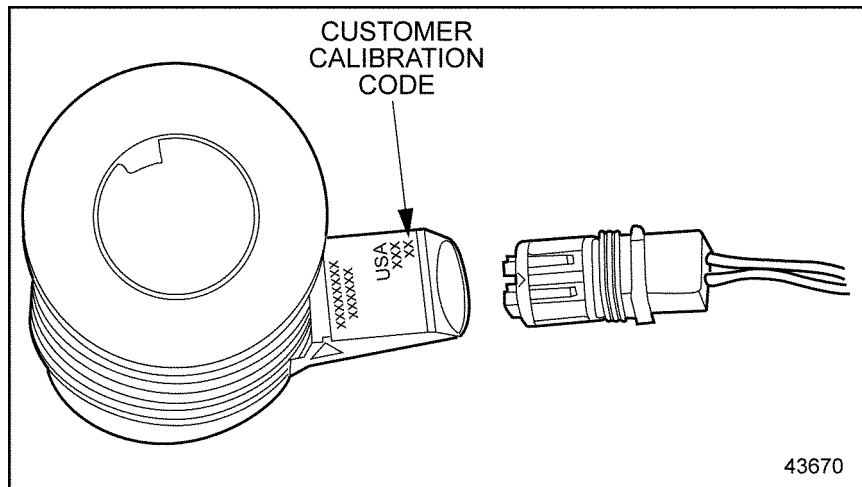

Figure 11-1 **Injector Calibration Code**
2. Compare the calibration code(s) shown on the Detroit Diesel Diagnostic Link display with the two digit calibration code(s) on the injector(s). See Figure 11-1.
- [b] If the calibration code on the display is different then the calibration code on the suspect injector for that cylinder, the injector setting must be reset, see Figure 11-1; refer to section 11.5.1.